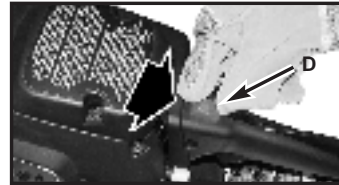

Fig. 2
1. Slide the STOP switch down (Fig. 2).